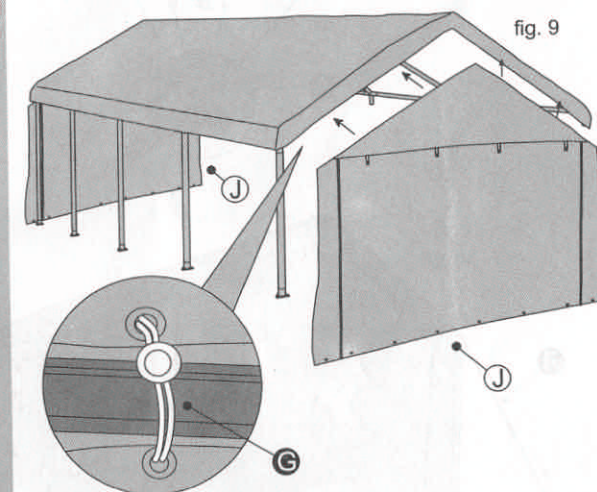

fig. 9
2. Use the same Canopy Ties **G** as before to fix the top of the End Panels **J** onto the unit. See fig. 9.